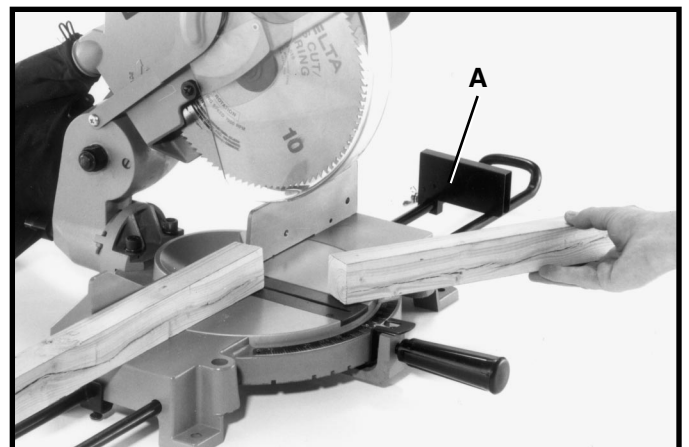

Fig. 33
8. Fig. 33, illustrates the stock stop (A) being used for repetitive cutting operations.